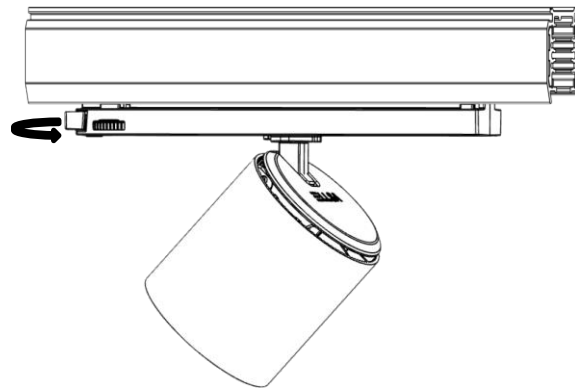

FIG. 4
- Secure the fitting into the track with the locking lever/buckle (Fig. 4).